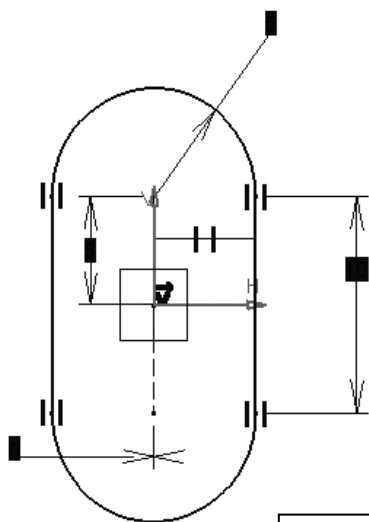

Fig. 6
Select the plane (YZ) and create the sketch of the section S1 (fig. 6):